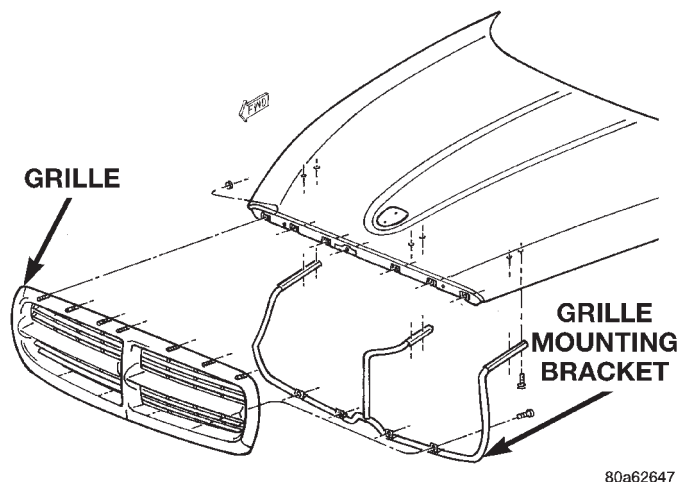

Fig. 1 Grille
- (1) Release primary hood latch.
- (2) Release hood safety catch and open hood.
- (3) Remove screws attaching bottom of grille to grille mounting bracket.
- (4) Remove nuts attaching grille to hood (Fig. 1).
- (5) Separate grille from vehicle.